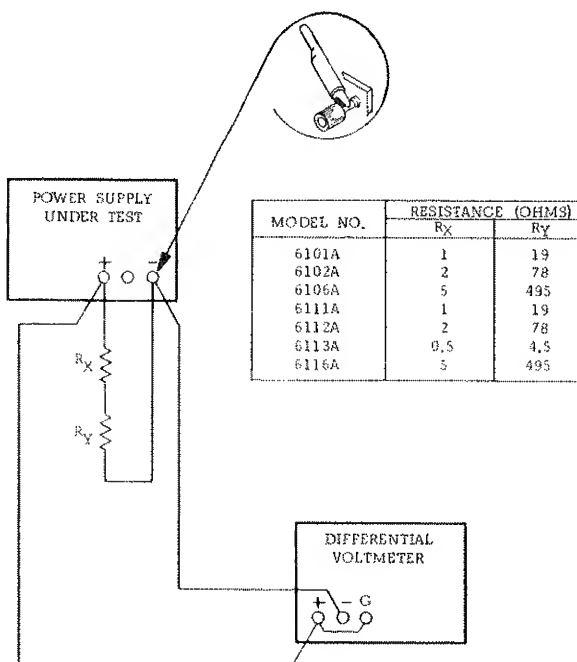

Figure 5-5. Load Regulation, Test Setup
- Connect test setup as shown in Figure 5-5.
- Connect test setup shown in Figure 5-5.